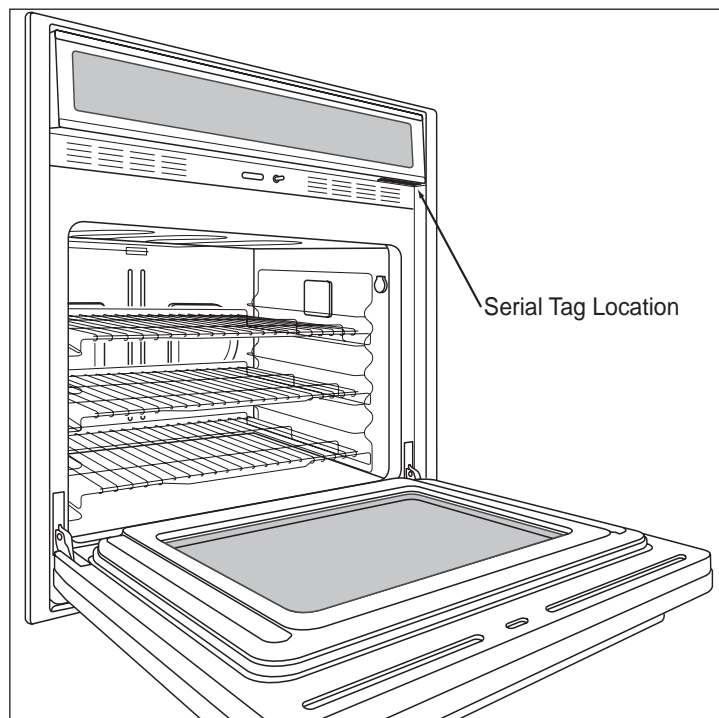

Figure 1-2. The serial tag is located underneath the control panel.
- See Figure 1-2 for serial tag location.